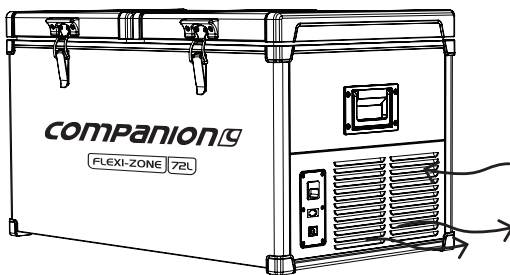

Fig. 1
**Note:** The normal operation of the appliance requires heat to be radiated away from the condenser located at the end of the cabinet. Adequate airflow is required around the compressor at all times. (Fig. 1).